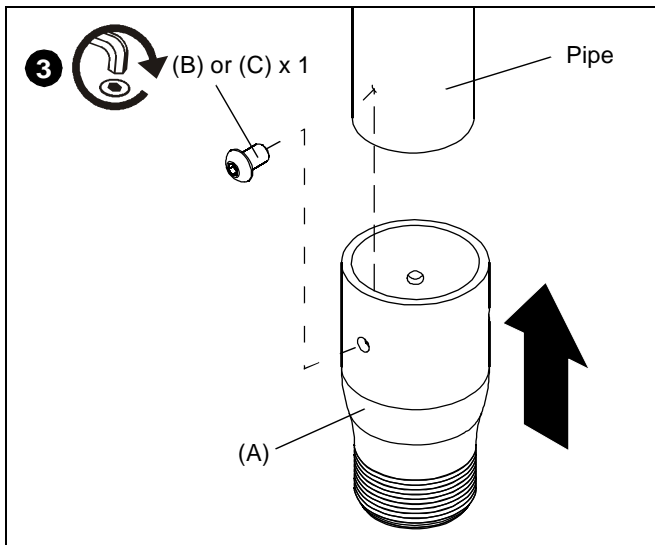

Figure 2
3. Slide CMS-260 (A) onto end of pipe and attach with a 5/16 x 1/2" button head cap screw (B) or 5/16 x 1/2" button head security cap screw (C). (See Figure 2)